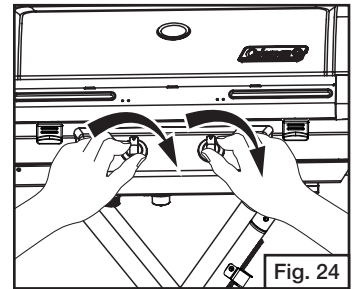

Fig. 24
- Before attaching propane cylinder make sure both control knobs are closed. (Fig. 24)